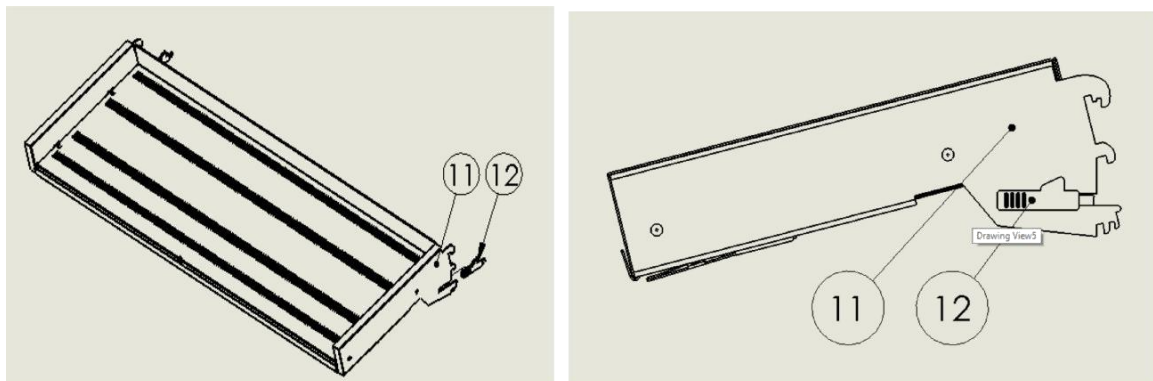

Figure 8
1 Unpack a PullOut TrayShelf (Item 11) from the carton and check to ensure there are two PullOut Bracket Locks (item 12) with the wings upward into the recesses in the back of the brackets attached to the PullOut TrayShelf. Push fully inward (see Fig 8)